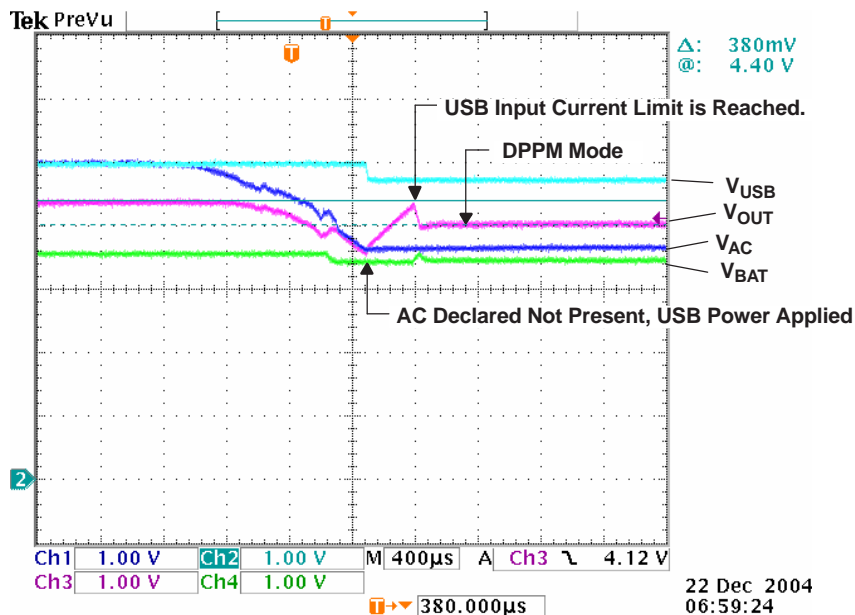

Figure 7. Remove AC – PWR XFER to USB
Figure 7 illustrates when AC is removed, power transfers to USB; PSEL = H (AC primary source); channel 1 (CH1)  $V_{AC} = 5.4\text{ V}$ ; channel 2 (CH2)  $V_{(USB)} = 5\text{ V}$ ; channel 3 (CH3)  $V_{OUT}$ ; output current,  $I_{OUT} = 0.25\text{ A}$ ; channel 4 (CH4)  $V_{BAT} = 3.5\text{ V}$ ; and  $I_{(PGM-CHG)} = 1\text{ A}$ . The power transfer from AC to USB only takes place after the primary source (AC) is considered bad (too low,  $V_{AC} \leq V_{BAT} + 125\text{ mV}$ ) indicated by the ACPG FET turning off (open drain not shown). Thus, the output drops down to the battery voltage before the USB source is connected (6th div). The output starts to recover when the USB FET starts to limit the input current (7th div) and the output drops to the  $V_{(DPPM-REG)}$  threshold.